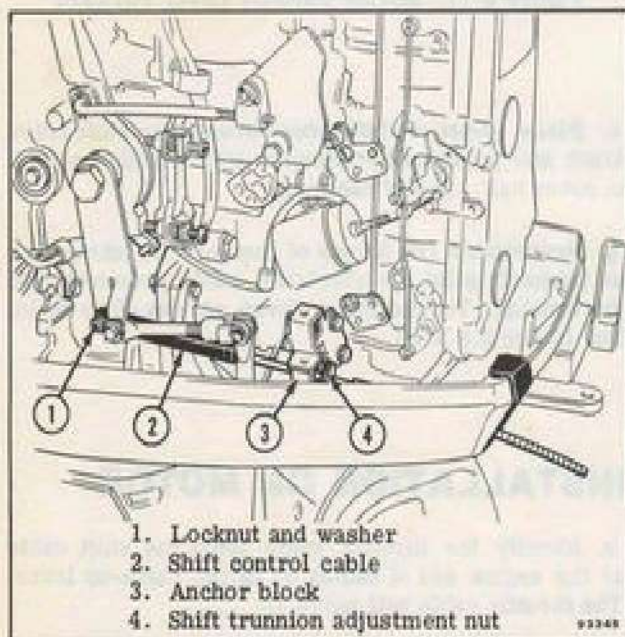

Figure 8-12. Installing Shift Cable
e. Place shift lever on engine in neutral position (propeller shaft will turn freely when in neutral). Note amount of free play in shift lever and position lever in center of this travel. Determine mid-point of shift cable backlash by first pushing casing guide and trunnion nut toward each other, and then pulling them apart. Position backlash at mid-point, and then place trunnion adjustment nut of shift cable into trunnion pocket of anchor block which aligns with the shift lever. See Figure 8-12. Turn the trunnion adjustment nut until hole in casing guide is in line with pin on shift lever. (Flat on casing must face lever.) Attach casing guide to pin using washer and locknut supplied with engine.